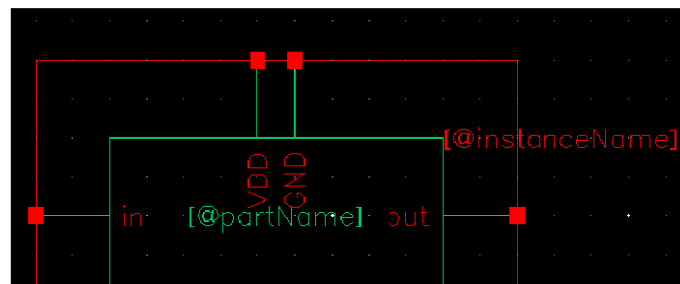
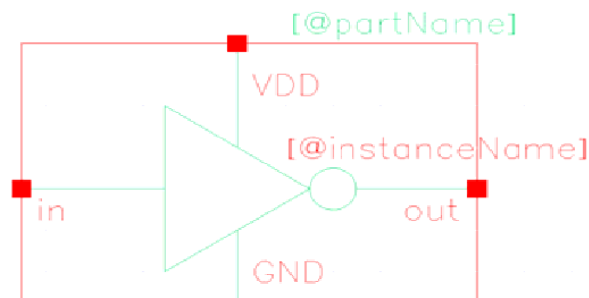

Figure 5. Default symbol of inverter
Figure 6. Complete inverter symbol
- The symbol which is initially created will look like Figure 5. Please modify the symbol so that it resembles a general symbol of inverter as given in Figure 6 (See appendix). Then save it. **It's also ok if you change the port name and leave the shape as the default one. You don't need to draw hours on it.**